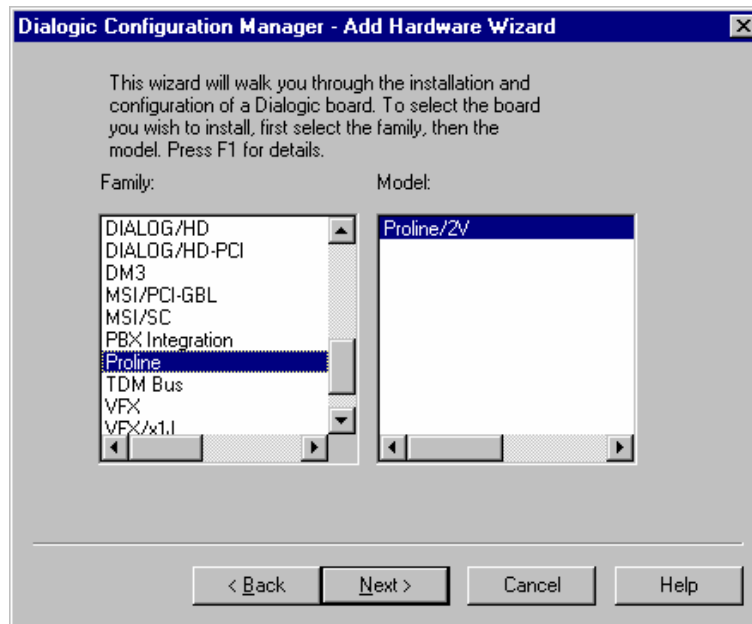

Figure B.13. Add Hardware Wizard: Choosing the Telephony Card
3. Select **Add Device** from the **Action** menu. This opens the **Add Hardware Wizard** dialog box, as shown in **Figure B.13**. Scroll down the list of cards under **Family** and select **Proline**. Then, under **Model**, select **Proline/2V**. Click the **Next** button to continue.